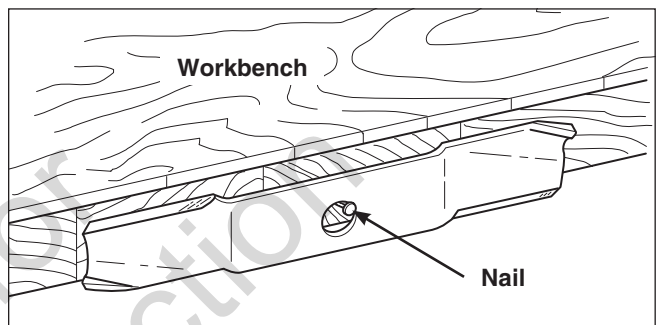

Figure 18. Balancing The Blade
5. Balance the blade as shown in Figure 18. Center the blade’s hole on a nail lubricated with a drop of oil. A balanced blade will remain level.